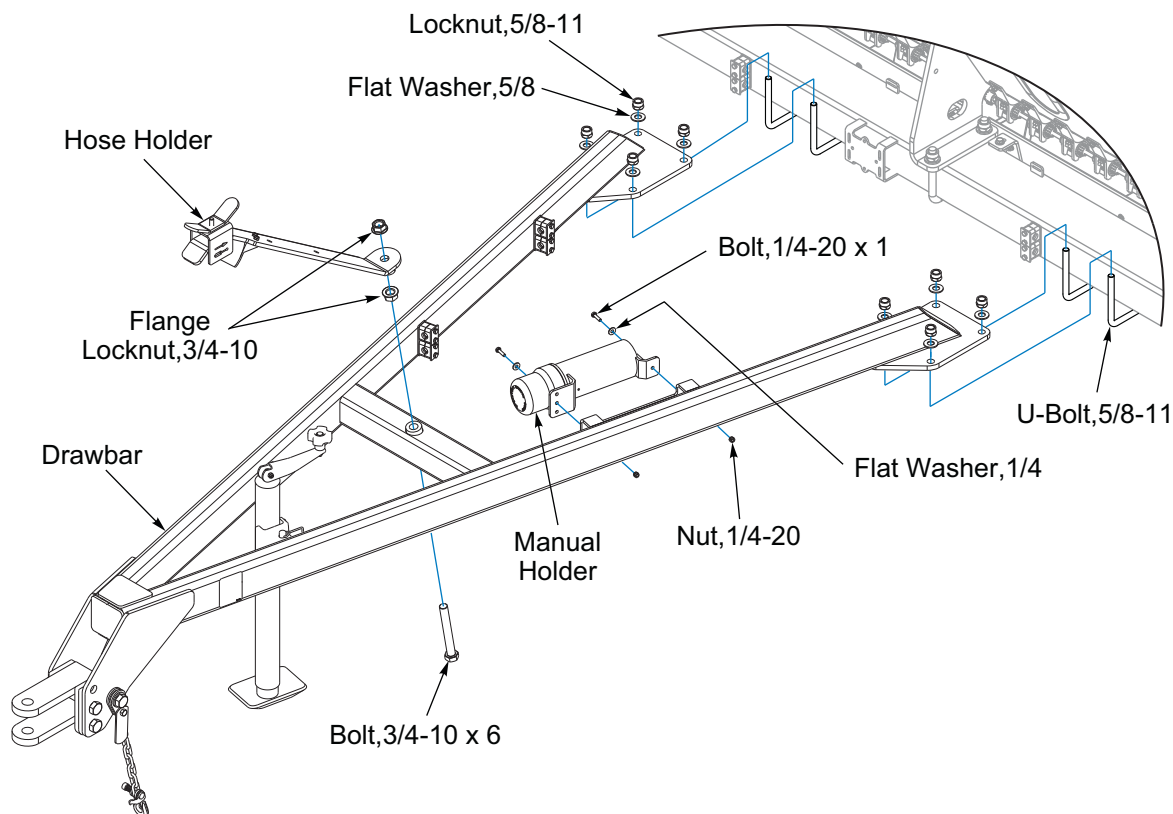

Figure 2-8: Drawbar Installation (After 06/2026)
2. Center Drawbar in relationship with the Seed Box Center Bracket. Attach Drawbar to Seeder Frame Tube with 5/8-11 U-Bolts, Flat Washers and Locknuts. **See Figure 2-8.**